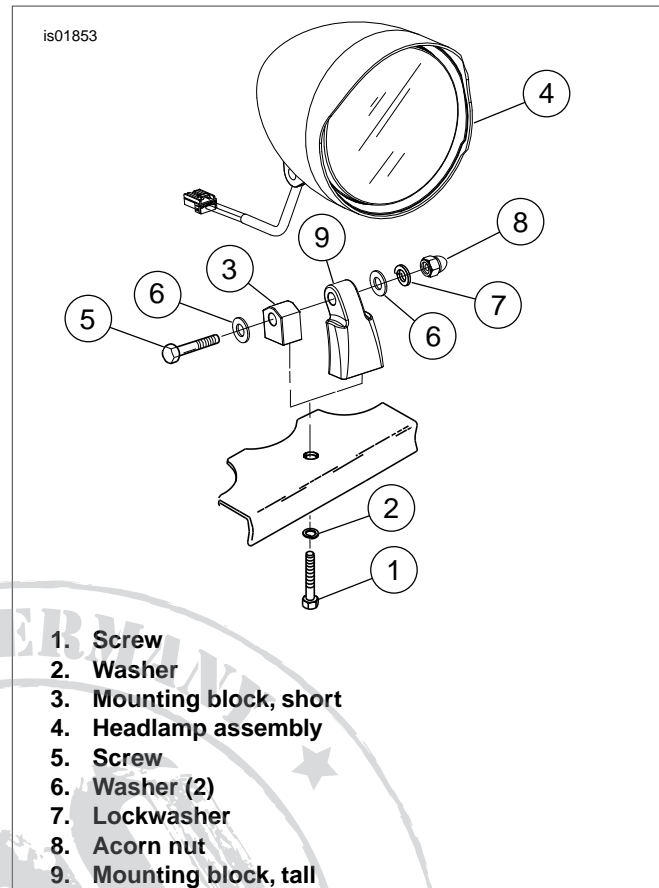

Figure 8. Billet Headlamp Assembly with Short/Tall Mounts
1. *Softail and 1994-2005 FXDWG Models:* See Figure 8. Loosely install vertical adjusting screw (1) from kit and washer (2) previously saved.
- 2000-Later FXSTD Models:* See Figure 8. Loosely install vertical adjusting screw (1) and washer (2) previously saved.
2. Loosely install mounting block (3) and billet headlamp (4) using horizontal adjusting screw (5), washers (6), lockwasher (7), and acorn nut (8).
1. See Table 1 and Figure 8. Loosely install vertical adjusting screw (1) and washer (2) previously saved.
2. Loosely install mounting block (9) and billet headlamp (4) using horizontal adjusting screw (5), washers (6), lockwasher (7), and acorn nut (8).